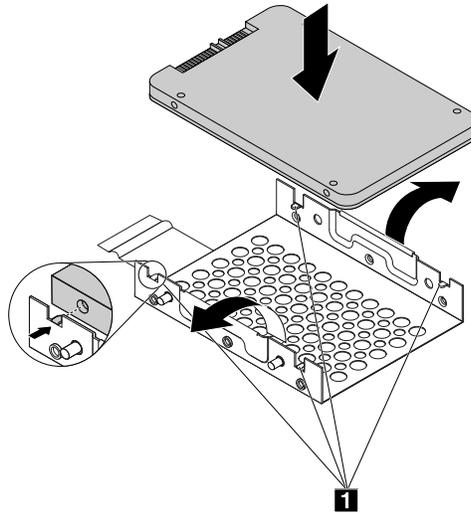

Figure 65. Installing the storage drive into the metal bracket of the converter
5. Install the new storage drive into the converter. See Figure 65 “Installing the storage drive into the metal bracket of the converter” on page 92.